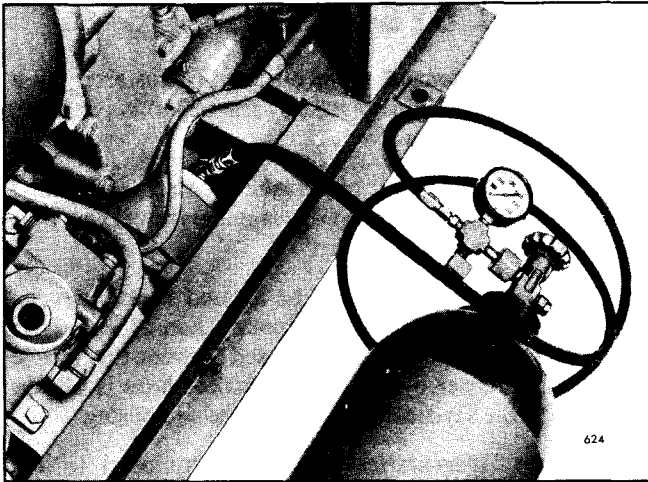

Fig. 23 – Charging Accumulator with Charging Kit J 6714-02
1. Attach the gage end of charging kit J 6714-02 to the nitrogen tank (Fig. 23).